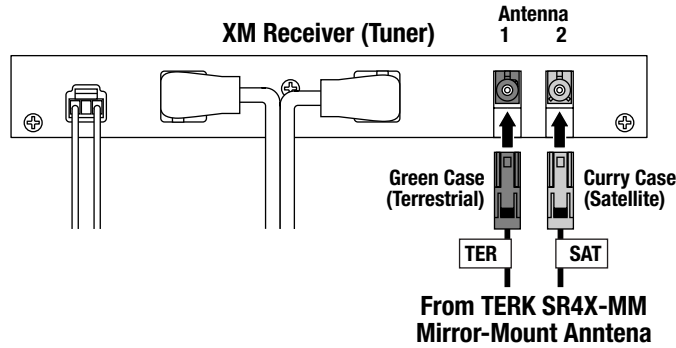

Figure 6. Wiring diagram shows antenna connections to an XM receiver.
5. If the XM system is not already installed, temporarily connect power and ground. Then connect the SR4X-MM antenna cables to your XM receiver, as directed by the receiver's manufacturer (see Figure 6 on page 8).